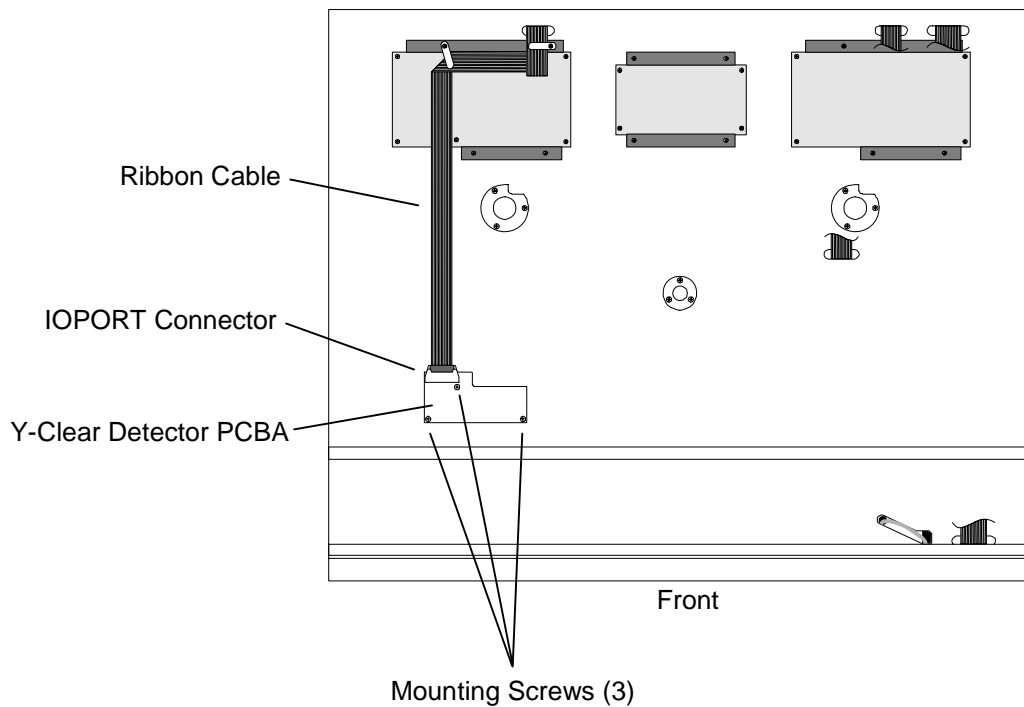

Figure 7-84 Y-Clear PCBA on Top of TLS (Dual Bay Model Shown)
3. Disconnect the ribbon cable at the IOPORT Connector (Figure 7-84).
4. Using a number 2 Phillips screwdriver, remove the three mounting screws which secure the Y-Clear Detector PCBA to the top of the TLS (Figure 7-84).
3. Place the Y-Clear Detector PCBA on the top of the TLS and align all three mounting screw holes in the PCBA with the mounting screw holes in the TLS (Figure 7-84).
5. Reconnect the ribbon cable at the IOPORT Connector (Figure 7-84).